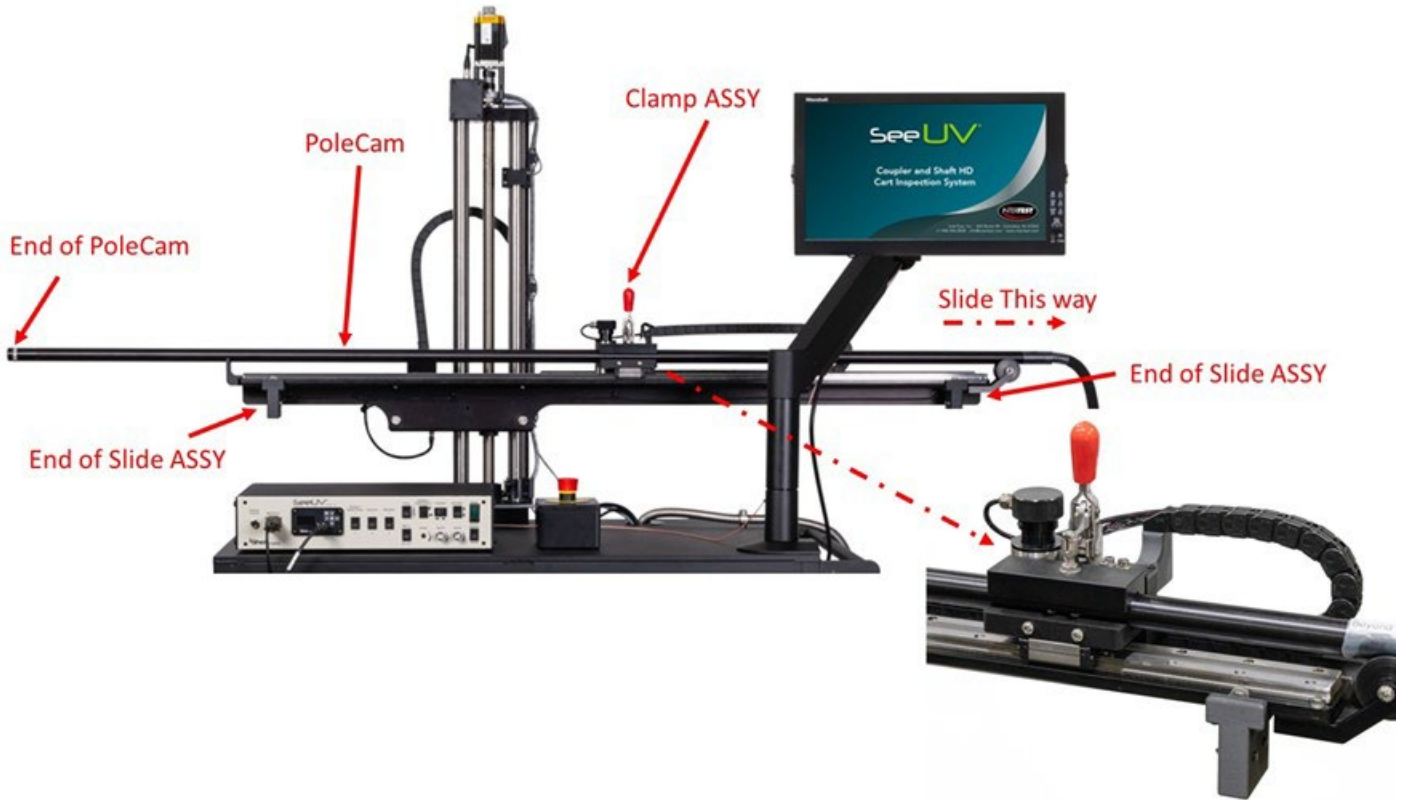

Figure 15 Pole Cam Installation
-Install Pole Cam on Elevation / Insertion Slide See Figure 15